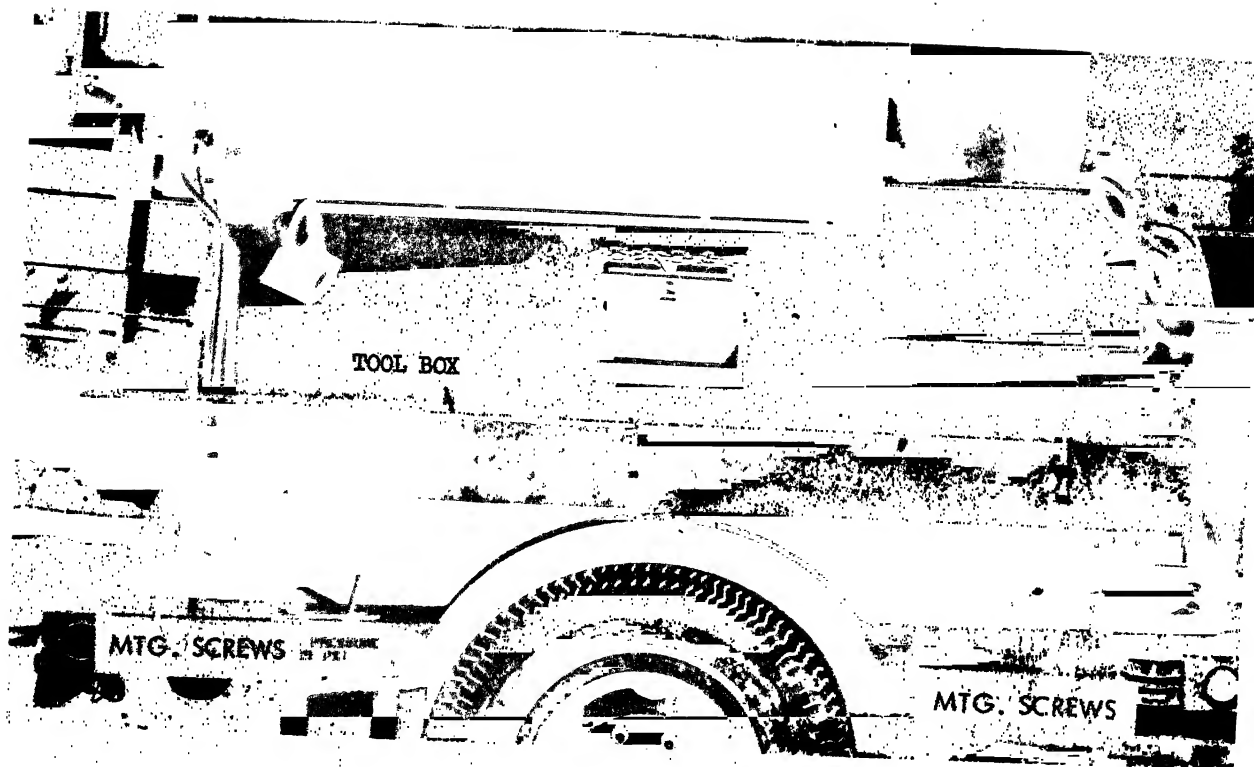

FIGURE 46. REMOVAL OF TOOL BOX
2. Refer to Fig. 46 and remove the tool box.
- c. Installation. Refer to Fig. 46 and install tool box.